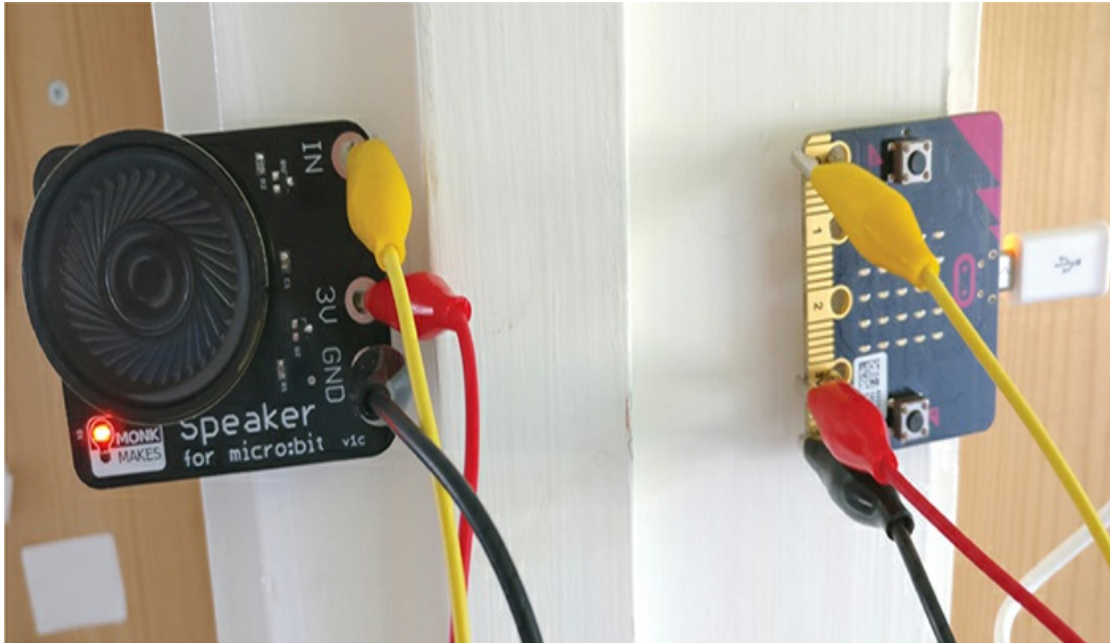

Figure 2-7: The musical doorbell project
This project (shown in Figure 2-7) is a variation on Experiment 1, except that instead of playing a single tone when a button is pressed, the doorbell will play tunes. We’ll have button A play one tune and button B play another. You can see a short video of the project in
1. Connect the speaker to the micro:bit using the three alligator cables, as shown in Figure 2-7.